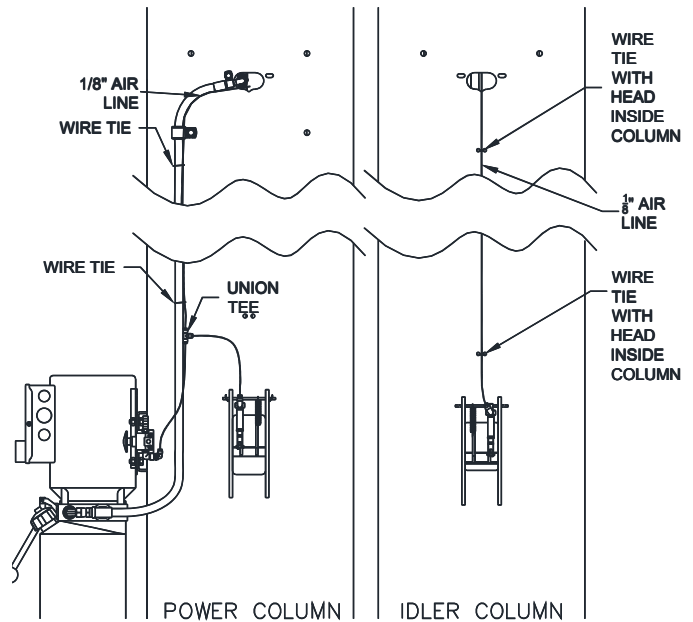

Fig. 17 – Lock Release
- 52) Connect the rest of the 1/8" air line to the top of the tee and run it along side the hydraulic hose up the column and across the overhead attaching it to the hydraulic hose with wire ties (**Fig 17**).
- 54) Secure the air line to the Idler Column using black wire ties through the double holes in the middle of the column. Place the head of the wire ties inside the column. Cut the air line to length and attach it to the idler side lock release air cylinder (**Fig. 17**).